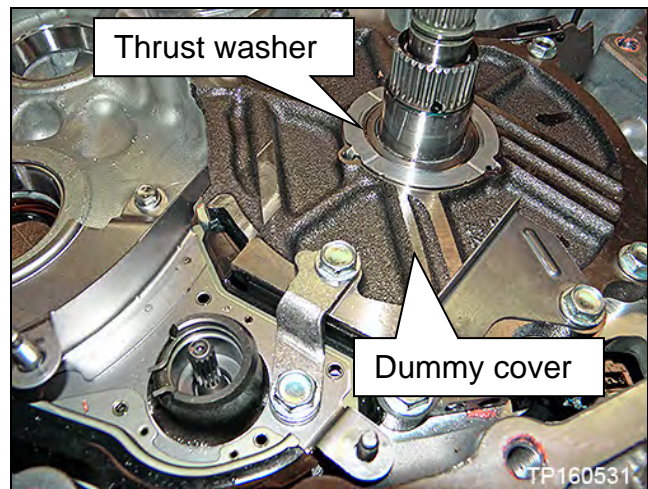

Figure 14C
- a. "Pump cover" (dummy cover) thrust washer (Figure 14C).